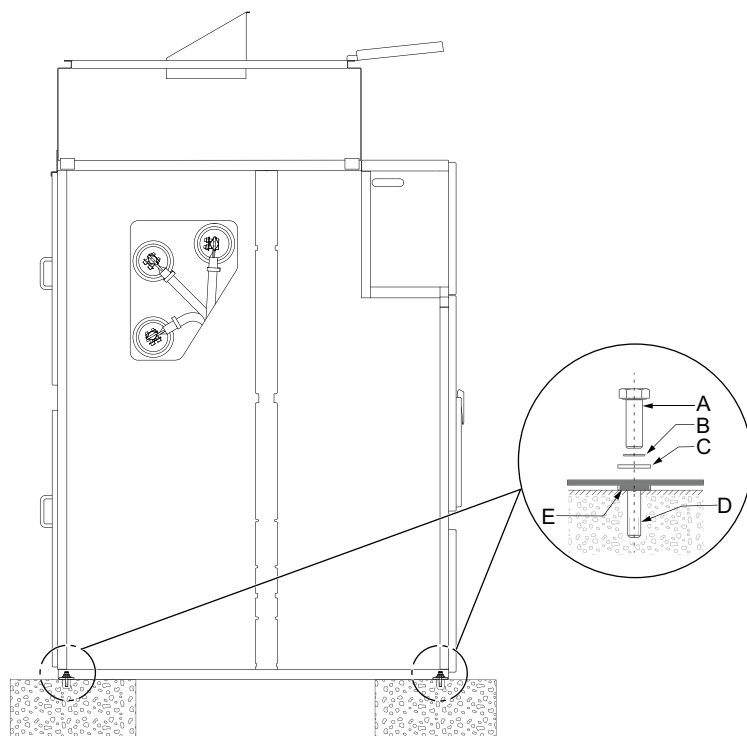

Figure 19
- If necessary, raise the cubicle and insert shims below the cubicle near the fastening points until the correct horizontal position is achieved, refer to Figure 19.